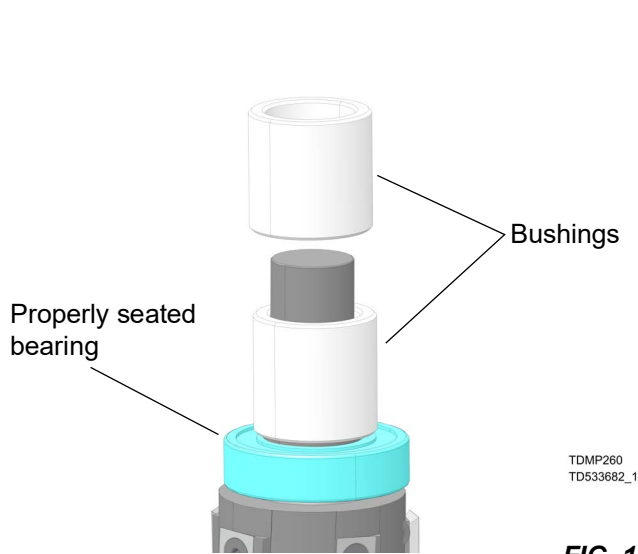

FIG. 14
1. Use rubber mallet to seat (1) bearing on short end of cutter shaft.
2. On long end, use mallet and (2) 1 5/8" OD x 1 1/2" bushings to seat bearing fully onto shaft as shown in FIG. 14.